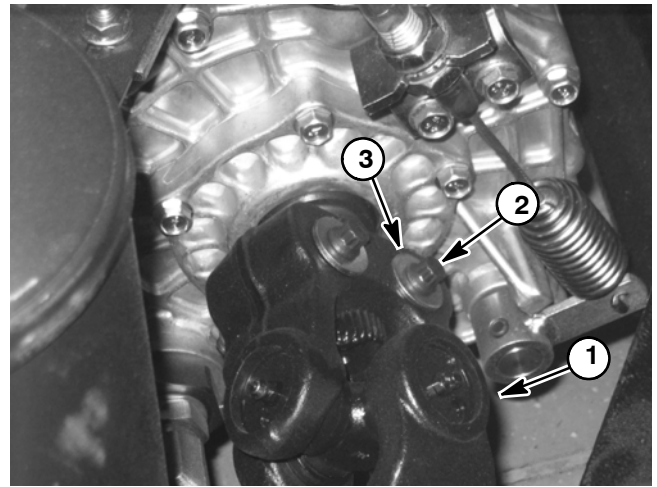

Figure 8
3. Loosen and remove flange nuts, cap screws and hardened washers that secure driveshaft to transaxle shaft (Fig. 8).
2. Secure driveshaft to transaxle shaft (Fig. 8):